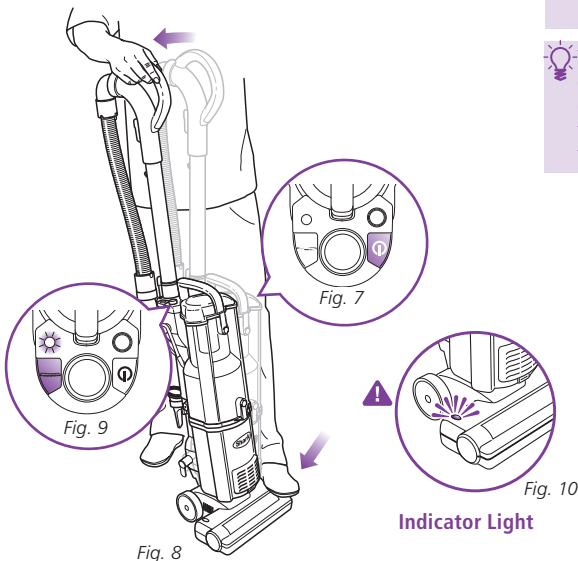

Fig. 8
- 3 Place your foot on the power nozzle and pull the handle back towards you. (Fig. 8)